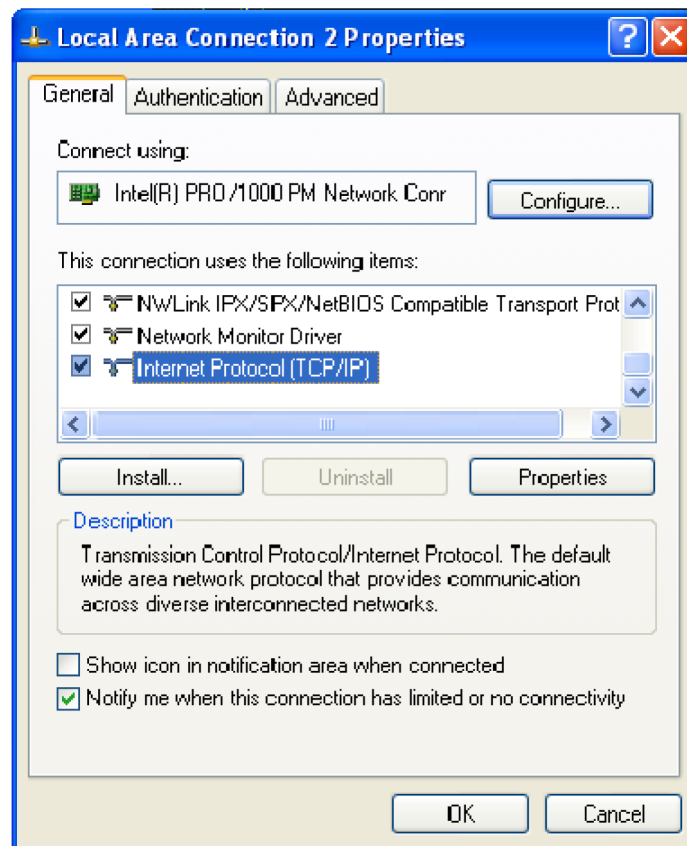

Figure 18: LAN Connection dialog box
4. Right-click the Local Area Connection icon that corresponds to your local LAN card and select **Properties**. The Properties dialog box appears. (See Figure 18.)